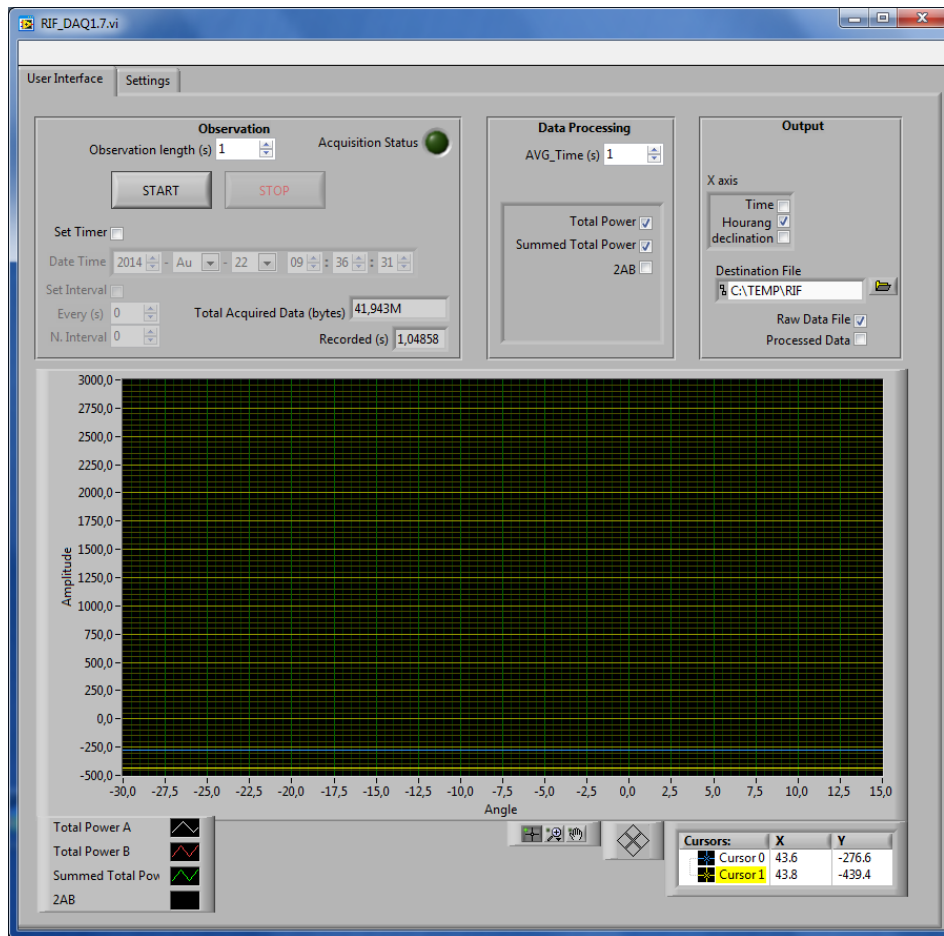

Figure 5: The RIF\_DAQ1.7.viData “User Interface” tab.
1. The “User Interface” tab (shown in Figure 5) of the RIF\_DAQ1.7.vi program can be used to both look at your data in real time and save it.